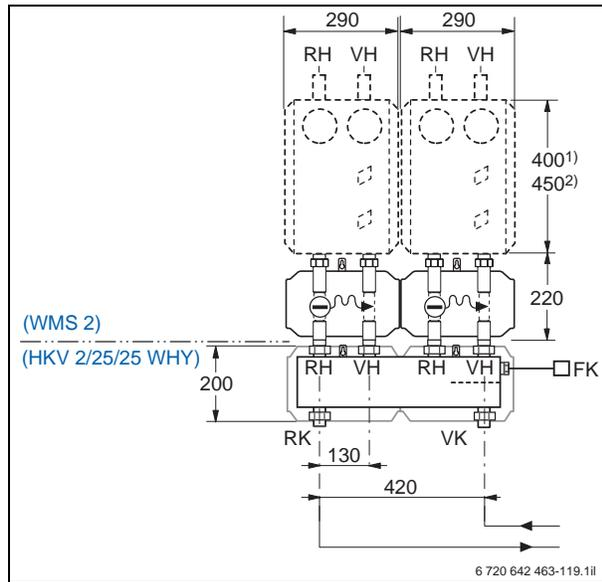
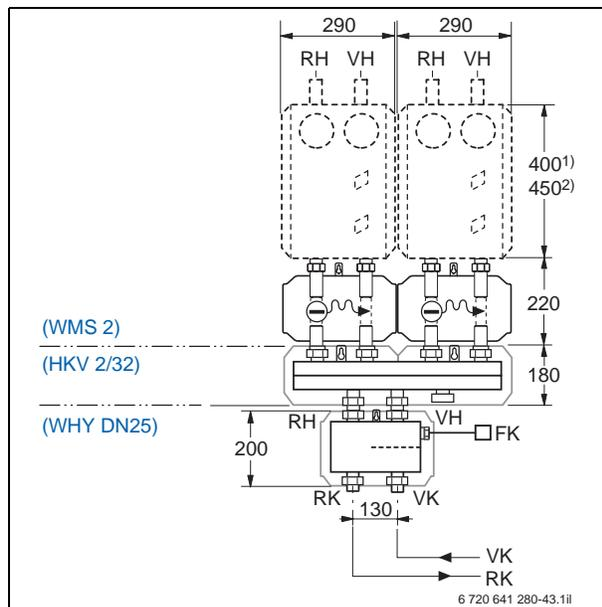

Fig. 93 Dimensions of the heat meter set (dim. in mm)
Fig. 94 Dimensions of the heat meter set with heating circuit distributor (dim. in mm)
**Key to fig. 93 and fig. 94:**